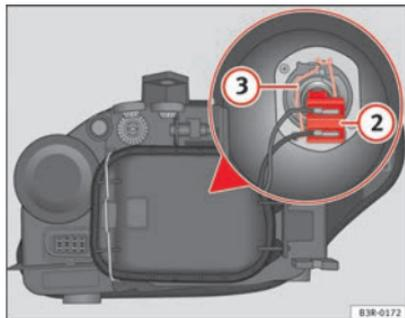

Fig. 198 Dipped beam headlights
- Pull the connector ⇒ Fig. 198 ② from the bulb.
- Unclip the retainer spring ⇒ Fig. 198 ③ pressing inwards to the right.